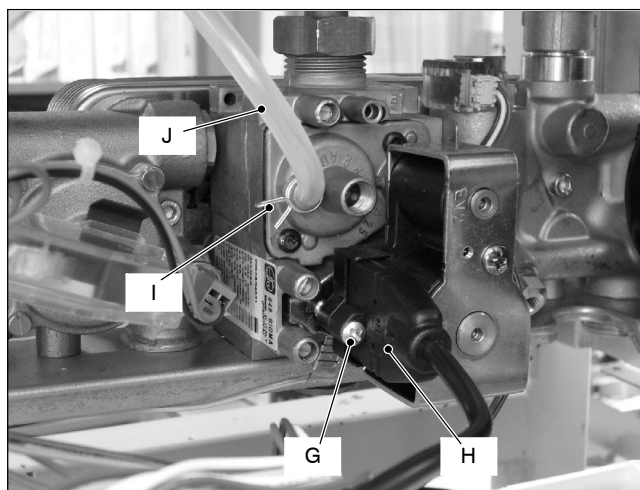

Fig. 11.9
- 2 Remove the screw *G* and disconnect the connector *H* (Fig. 11.9).